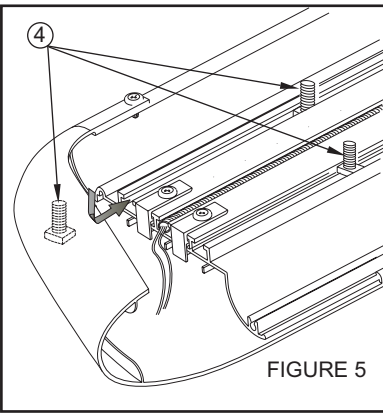
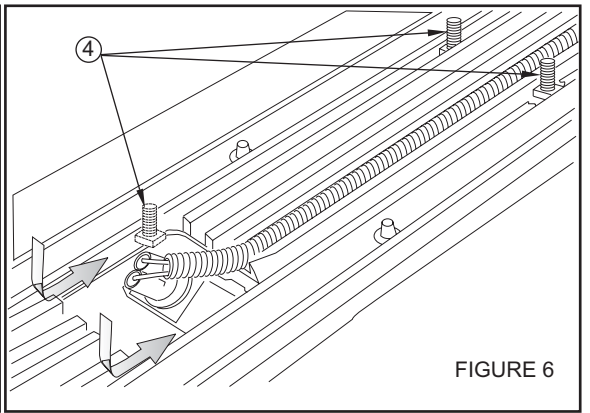

FIGURE 5
FIGURE 6
- STEP 5. Insert square head bolts in step boards as shown (3 in each slot, 6 per board). **SEE FIGURES 5 AND 6.**
**NOTE:** For lighted boards, run wiring harness prior to attaching board to brackets (refer to Step 8). **SEE FIGURES 5 AND 6.** Run longer wire harness on passenger side.
- HINT:** Molded Step Boards: For longevity, check rubber seals before installation. Rubber grommets around red and blue wires going into rear sockets, should be inserted and recessed about 1/4". **NOTE:** Remove bulbs and apply white grease into sockets and replace bulbs. Apply RTV Silicone where lights go into socket. Install lights and run wire loom as shown. **SEE FIGURE 6.** For Sure Grip Running Boards, run wire loom down center as shown. **SEE FIGURE 5.**